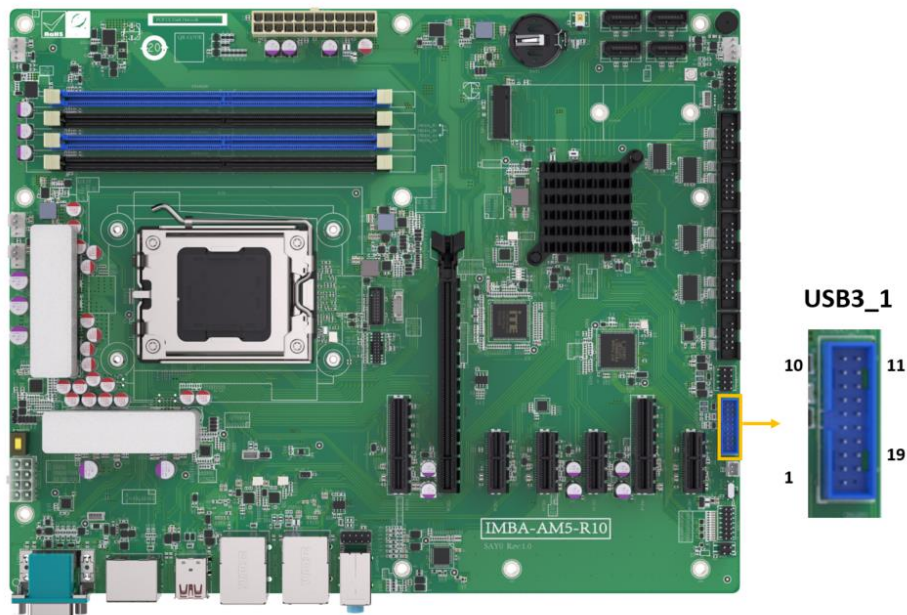

Figure 4-28: Internal USB 3.0 Connector Location
- CN Location:** See **Figure 4-28**